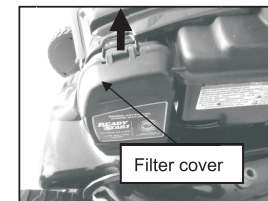

Fig.13A
1. Lift the tab on top of the filter cover. (Fig.13A)
2. Remove the filter cover. (Fig.13A)